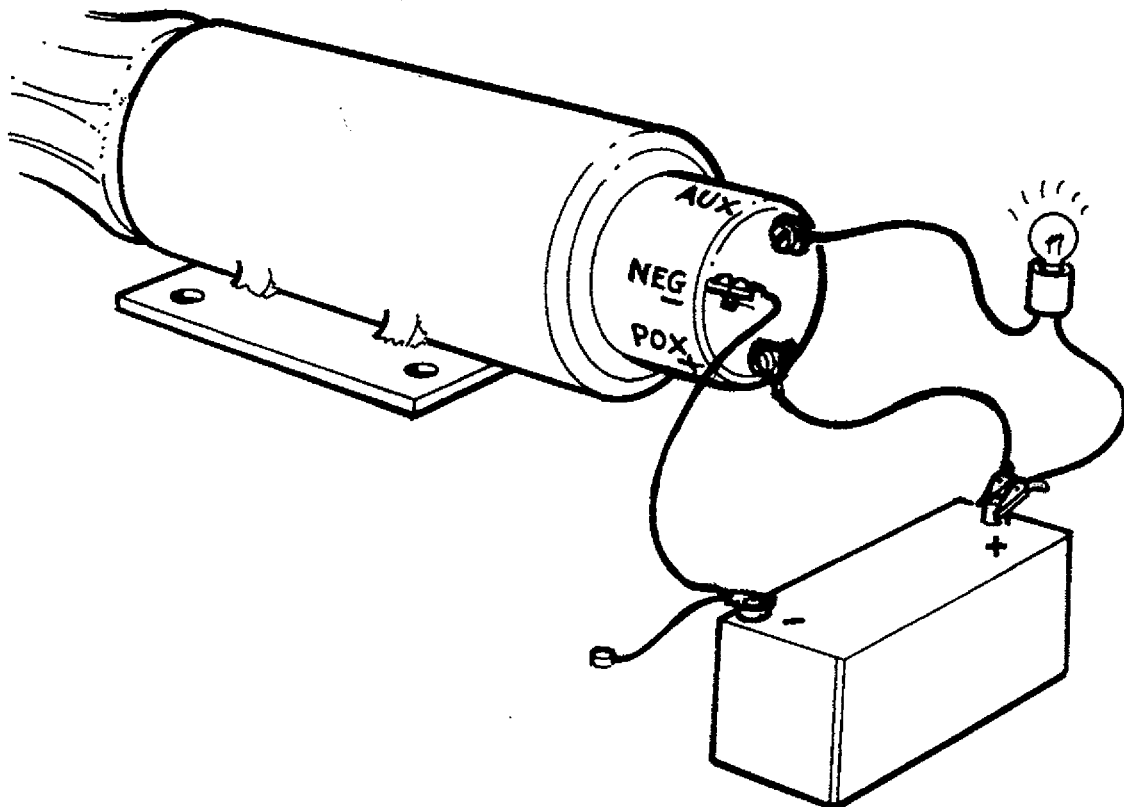

Fig. 4Z
- 2 Careful setting of the mechanical linkage is essential to ensure that the solenoid pull in coil supply is broken when on full stroke. This can be checked by energising the solenoid with a 24V indicator lamp connected between the auxiliary terminal on the solenoid and the battery positive terminal. When the solenoid is at its full travel the indicator lamp will illuminate see Fig. 4Z.
- 3** Check that the solenoid assembly (see **Fig. 4Z**) operates as per the above fitting instructions.